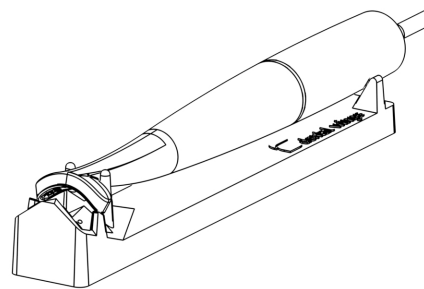

Figure 4: Using the integrity-check tool
3. Place the handpiece on the integrity-check tool, making sure both sides of the head fully rest on the tool (Figure 4).